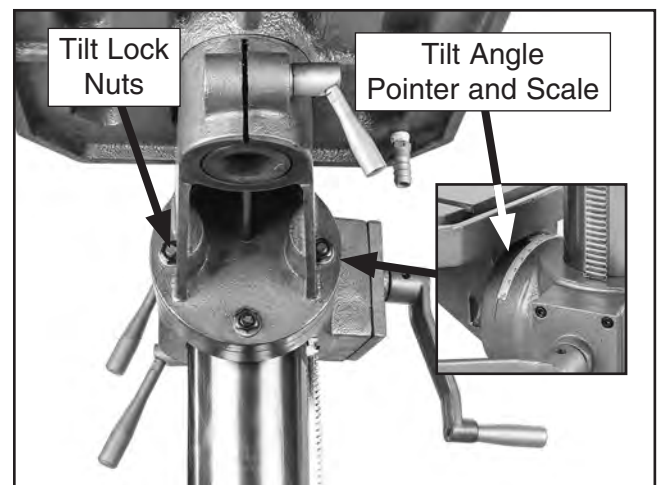

Figure 27. Table tilt controls.
2. Loosen three tilt lock nuts shown in **Figure 27**.
3. Tilt table until pointer aligns with desired angle on scale (see **Figure 27**).